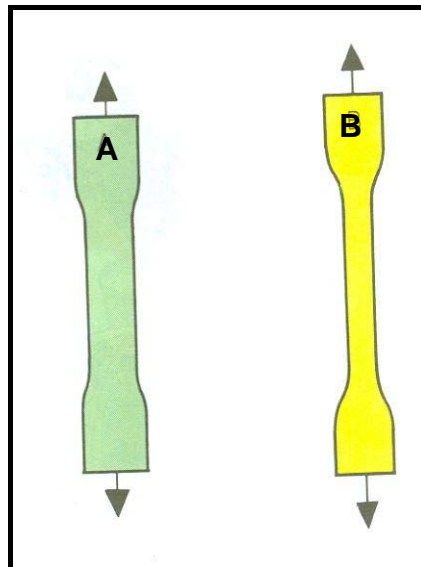

FIGURE 4.3
- 4.5 Which of the materials, A or B, shown in FIGURE 4.3 has the lower tensile strength and why? (The same force is applied to both materials.)